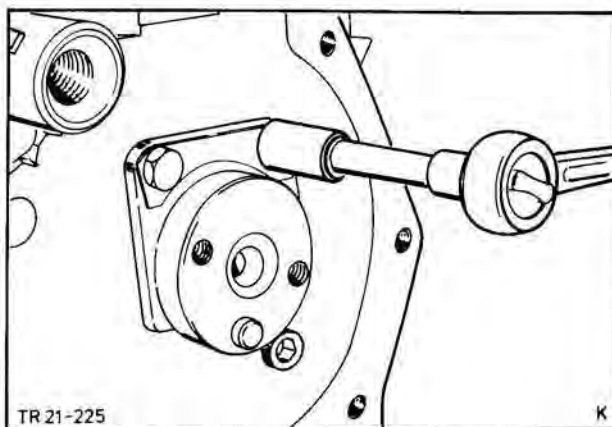

Fig. 40. Remove camshaft thrust plate
23. Remove camshaft thrust plate (2 bolts), Fig. 40.